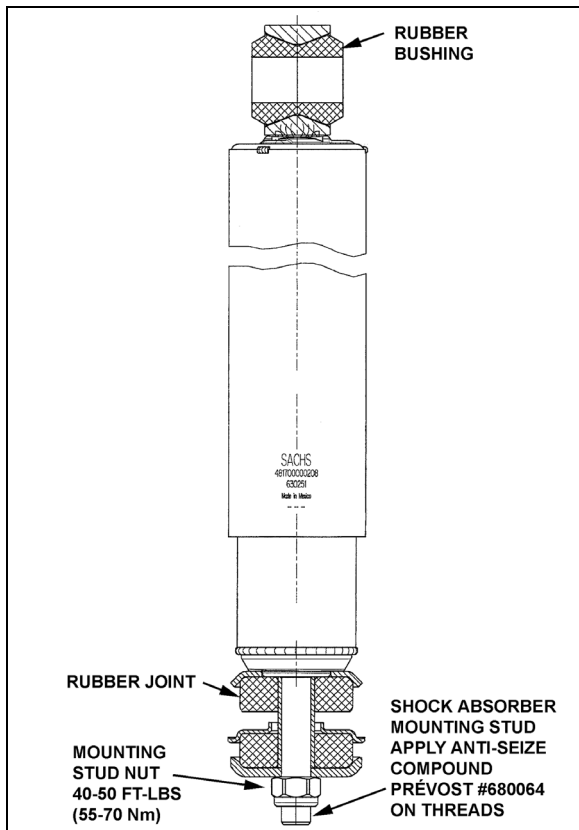

FIGURE 35: SHOCK ABSORBER
2. Remove the nut and washer from shock absorber mounting pin (upper side), taking care to identify the inner and outer washers to ease reinstallation. Refer to figure 35 for details.
3. Place the inner washer on shock absorber pin (Fig. 35).